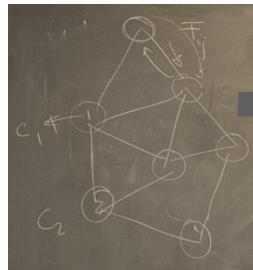

Figure 2.9: Simplified graph of a biochemical network.
- Suppose you have a (biochemical) network, and we control each transition between nodes locally (Figure 2.9).